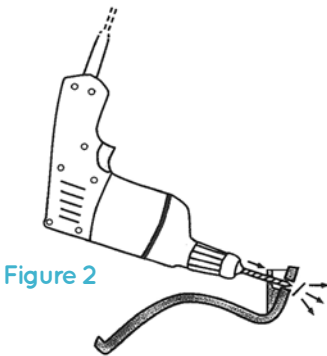
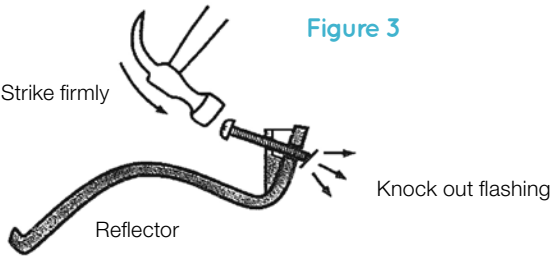

Figure 2
Figure 3
The speaker is prepared for use with the MBS mounting bracket when both are ordered together from the factory. If ordered separately, prepare the speaker as shown in figures 2 or 3, and 4.
- a) Begin by removing the plastic flashing from the hole in the reflector rim so that the screw can be inserted from the outside. Flashing can be removed with a 1/4" drill bit (figure 2), or it can easily be punched through using a hammer (figure 3). If using a 1/4" drill bit; be careful not to remove any material other than the flashing, or the speaker will not install correctly.